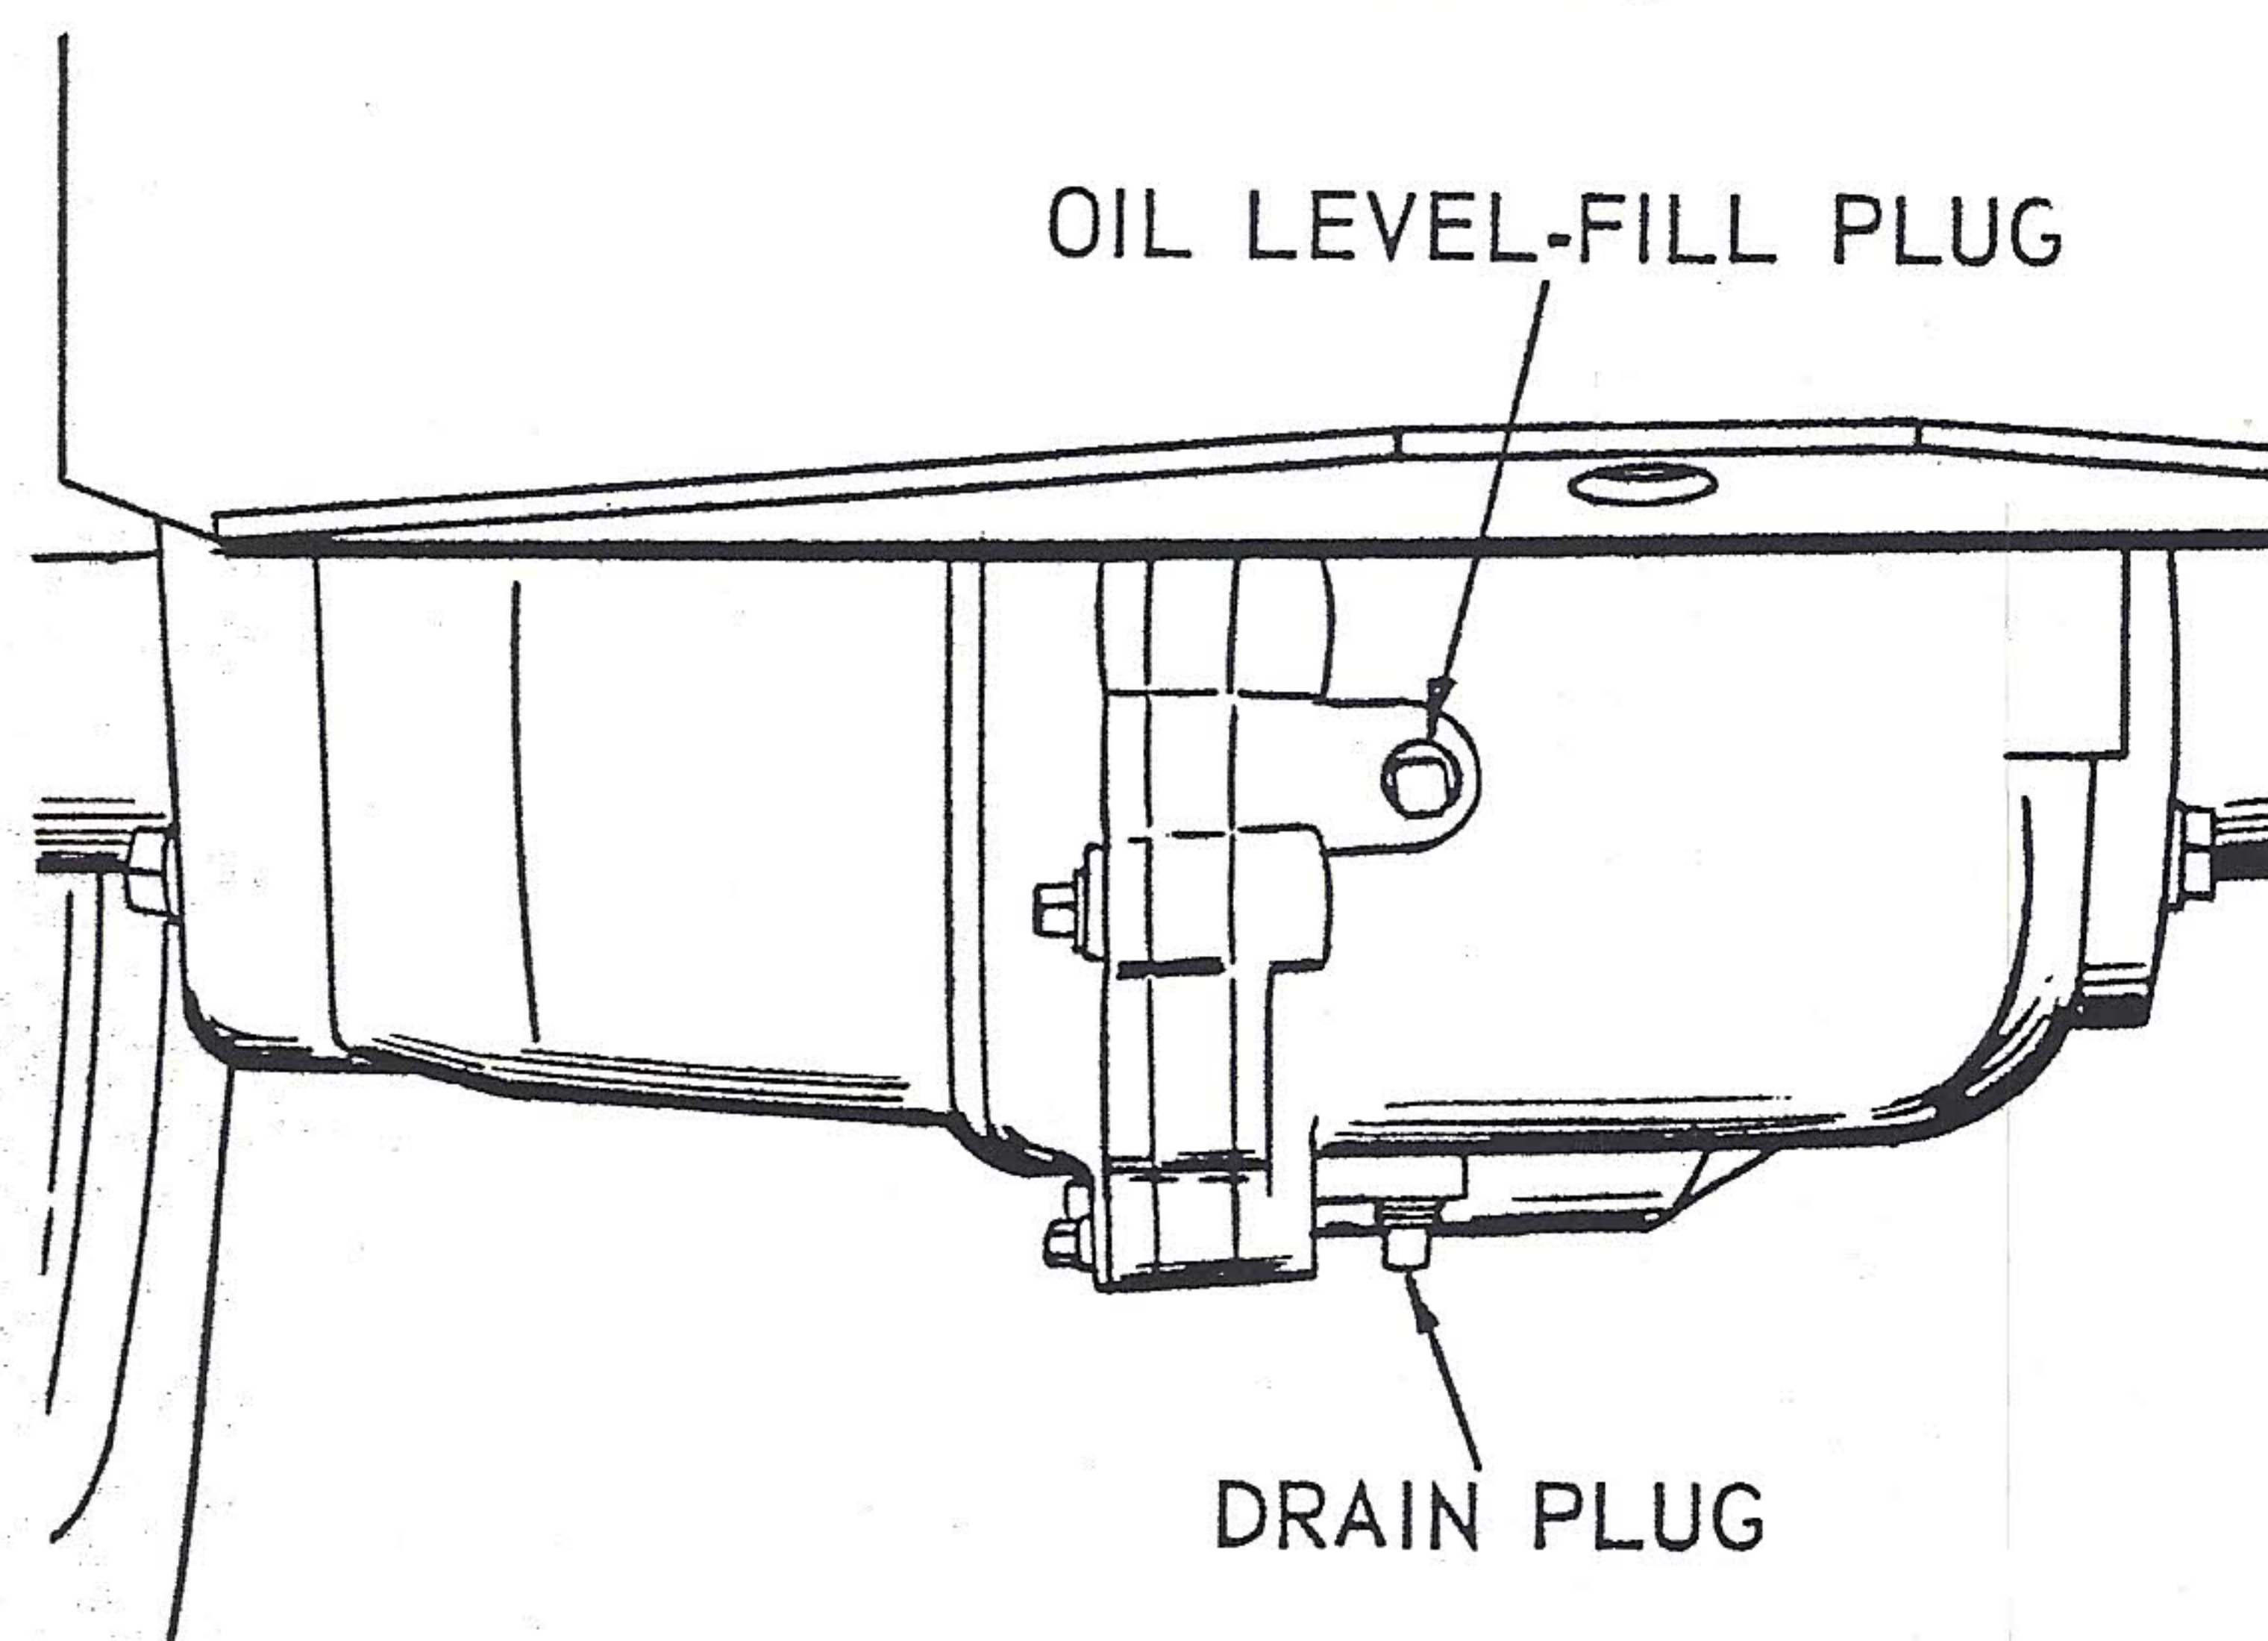

FIG. 27
- Check oil in transaxle every 50 hours of operation. Change oil every 500 hours of operation. (Fig. 27).